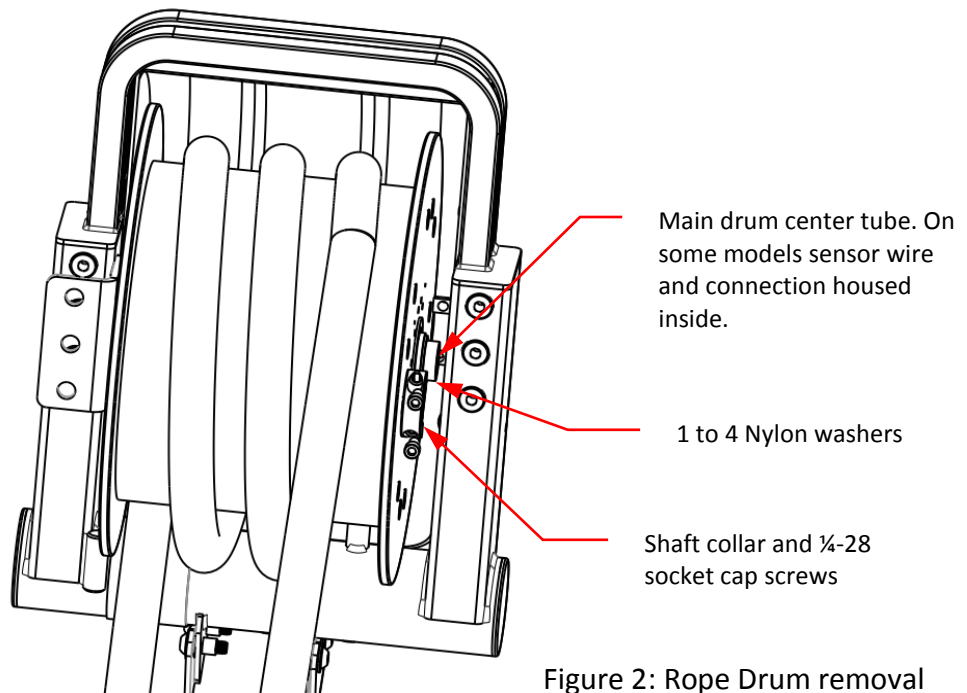

Figure 2: Rope Drum removal
- 2-1** Prepare new rope by winding it around the drum as shown in Figure 2. Ensure that nylon washers on the main drum tube are present as shown in Figure 2.